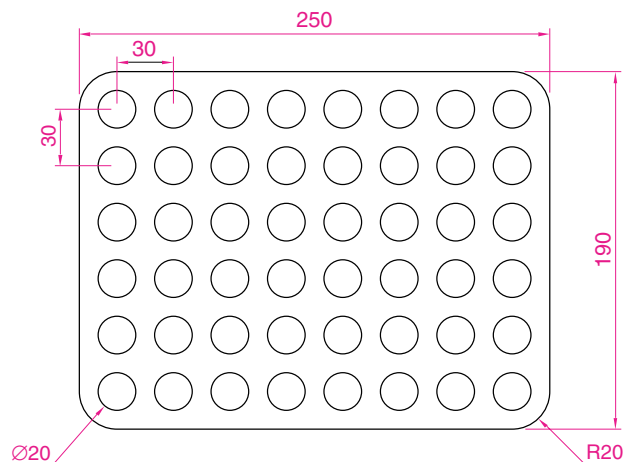

Fig. 5.47 Exercise 2
2. Construct the drawing in Fig. 5.47. All parts of the drawing are plines of width = **0.7**. The setting in the **Array** dialog is to be **180** in the **Angle of array** field.